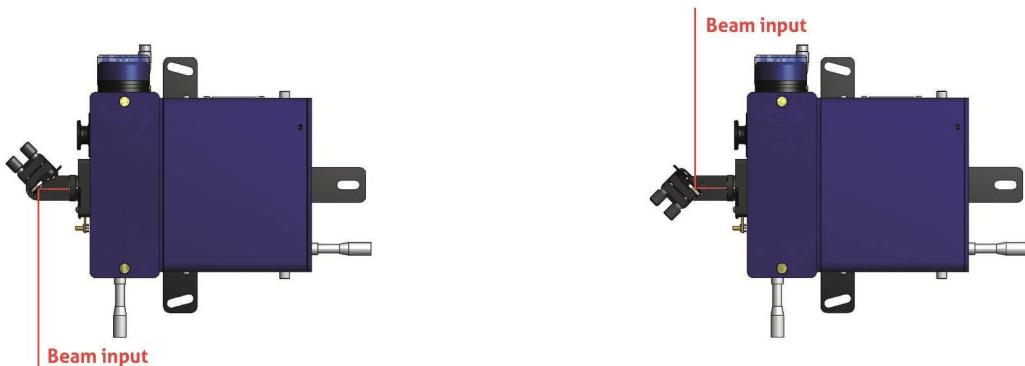
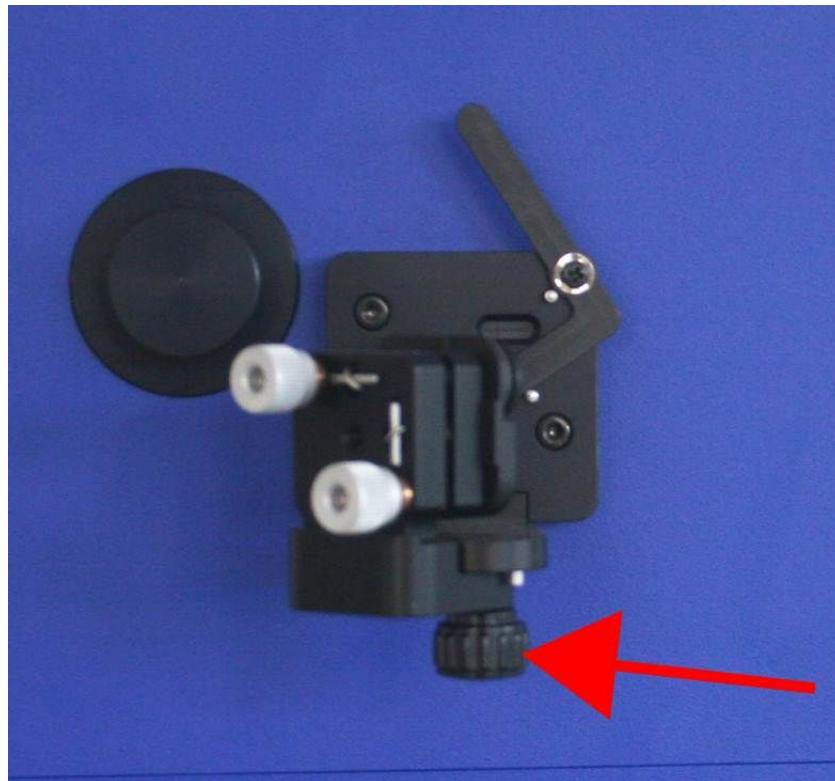

Figure 4.1.: Beam input: The input mirror assembly can be flipped to allow for beam input from either side.
Figure 4.2.: Input mirror assembly: Loosen bottom screw to flip between configurations.
1. Fasten the optical head on your optical table at a place where you can comfortably direct the laser beam to be measured onto the input mirror and handle the control elements. It should be possible to watch the display of your computer at the same time. The input mirror assembly can be mounted in two configurations allowing for different beam input directions (see Figure 4.1). To change the configuration loose the bottom thumb screw of the mirror assembly (see Figure 4.2).